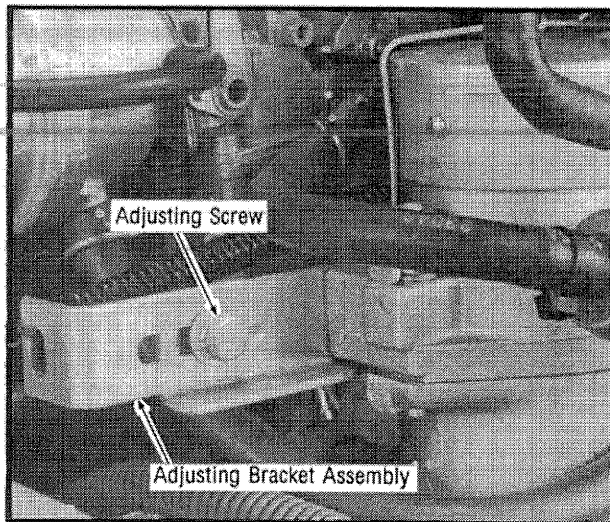

Figure 5 Governor Adjustment
- a. Loosen the adjusting screw on governor adjusting bracket assembly. See Fig. 5